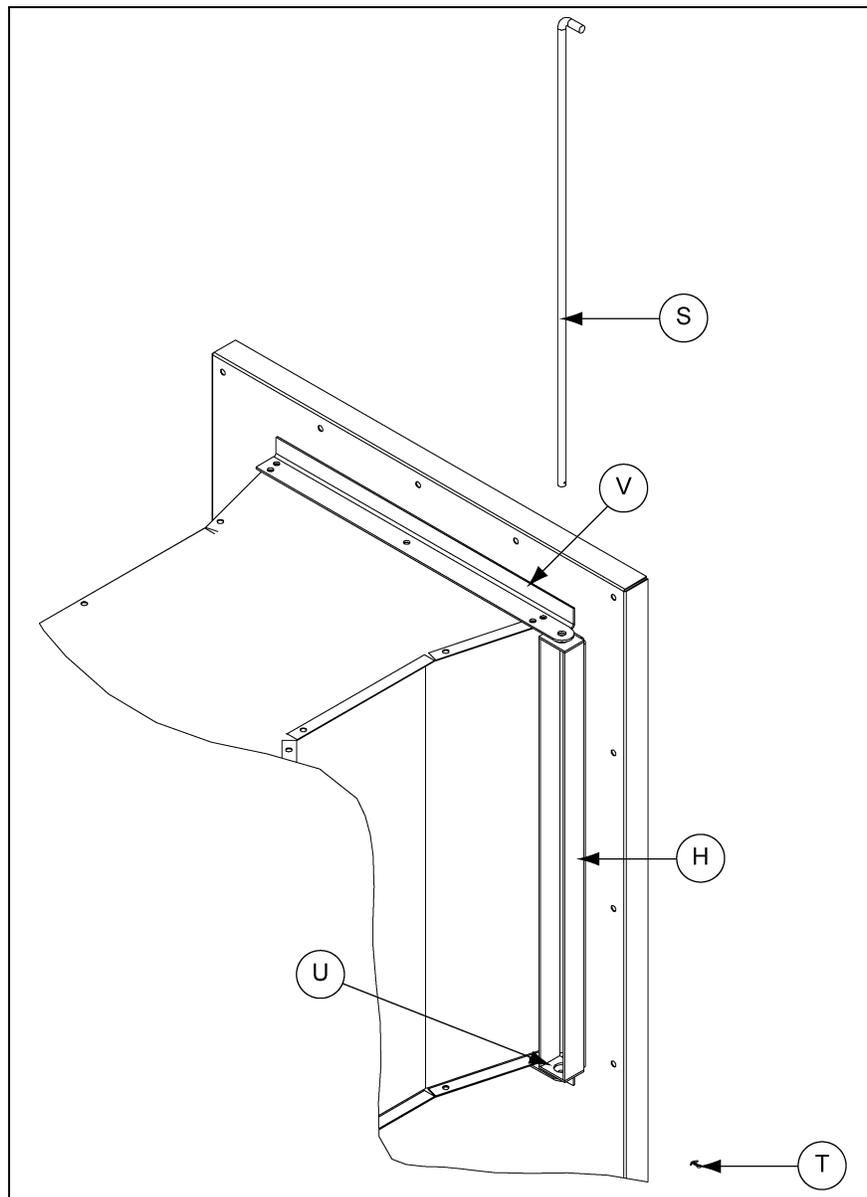

Figure 6N
11. Use proper lifting equipment to lift duct assembly into position and attach the pivot angle tops (T) and pivot angle bottom (U) on both duct assemblies to the duct pivot bracket (H) using one pivot rod (S). Secure with cotter pin (V). (See Figure 6N.)